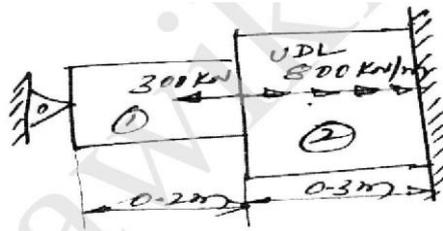

Fig. 1
(b) Find the nodal displacement stress and reaction for the bar subjected to load as shown in **Fig. 1**. Take $E_1 = 70$ GPa and $E_2 = 200$ GPa. (Horizontal load = 300 kN; UDL is 800 kN/m. 9M
5. Estimate the quantities of following item of works from the Single-roomed Building shown in Fig. 1. a) Earthwork in Excavation in foundation, b) Lime concrete in foundation, c) 1st class brickwork in superstructure in lime mortar. 14M